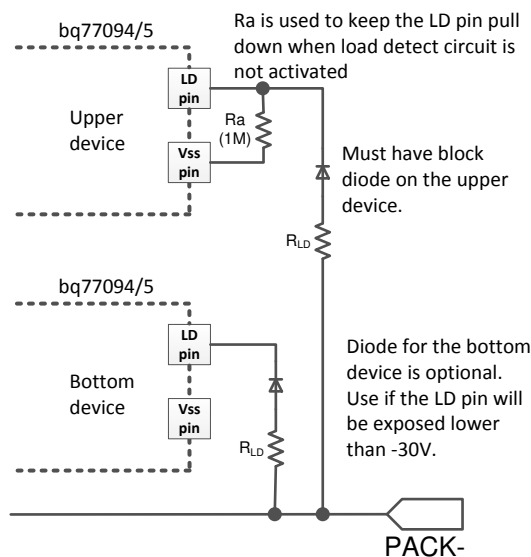

图 9-7. Simplified Circuit: LD Connection on Upper Device When Using for UV Fault Recovery
- If load removal is not used for UV recovery, connect the upper device LD pin to its AVSS pin, as shown in Figure 8-9 and Figure 8-10. Otherwise, refer to Figure 9-7 for proper LD connection.
To ensure load removal is detected properly during a UV fault, TI recommends to use  $3.3\text{ M}\Omega$  for  $R_{GS\_CHG}$  (instead of a typical of  $1\text{ M}\Omega$  when load removal is NOT required for UV recovery).  $R_{CHG}$  can stay in  $1\text{ M}\Omega$  as recommended when using CHG FET protection components. The CHG FET rise time impact is minimized as described in the Protecting CHG FET section. On a stacked configuration, connect the LD pin, as shown in 图 9-7 if load removal is used for a UV fault recovery. If load detection is not required for a UV fault recovery, a larger value of  $R_{GS\_CHG}$  can be used (that is,  $10\text{ M}\Omega$ ) and the LD pin on the upper devices can be left floating.